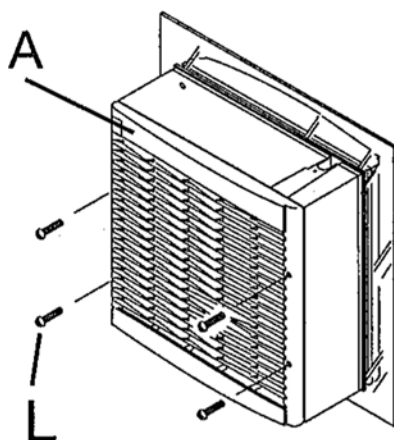

fig. 11
11. Replace the front grille (A) and fix it in place using the 4 screws (L) previously removed. (**FIG 11**)
11. Replace the front grille (A) and fix it in place using the 4 screws (L) previously removed. (FIG 11)